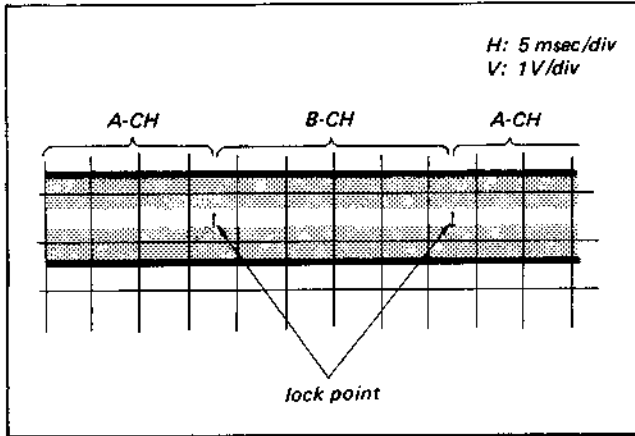

Fig. 4-4-20. AFC offset adjustment
- (3) Adjust RV22 so that the lock points of the A-CH and the B-CH are at the points shown in Fig. 4-4-20.